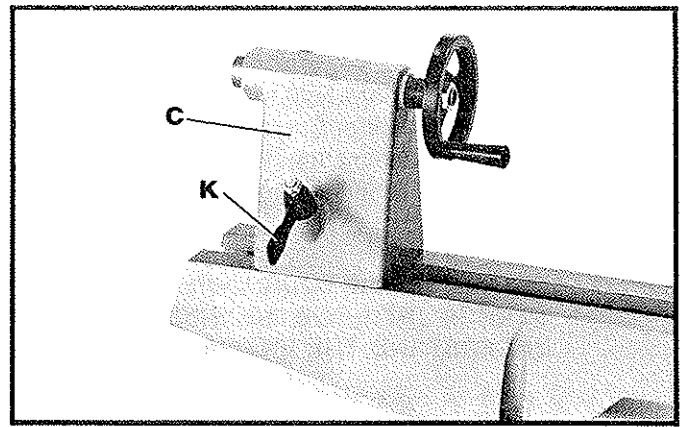

Fig. 4
3. Loosen tailstock locking lever (K) Fig. 4, and remove tailstock (C) from left end of lathe bed.